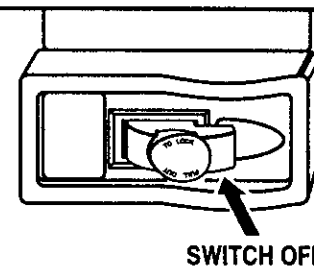

Fig. 55
- When work is completed, press switch off and remove switch key. See *Figure 55*.